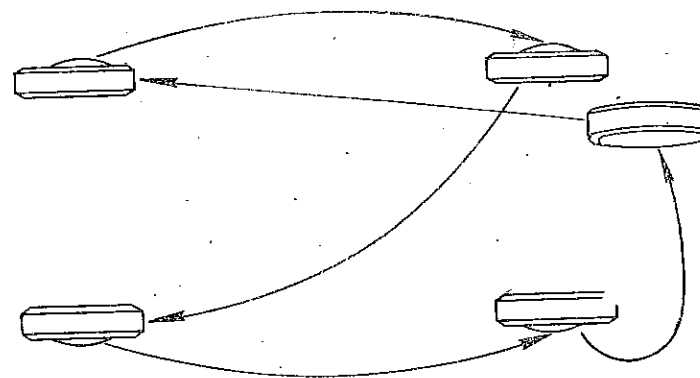

Fig. 8. Tyre Interchanging Order
1. Inspect tyres. If the tread is worn unevenly, find out and eliminate the cause of the trouble. Interchange the tyres and wheel assemblies as shown in Fig. 8.